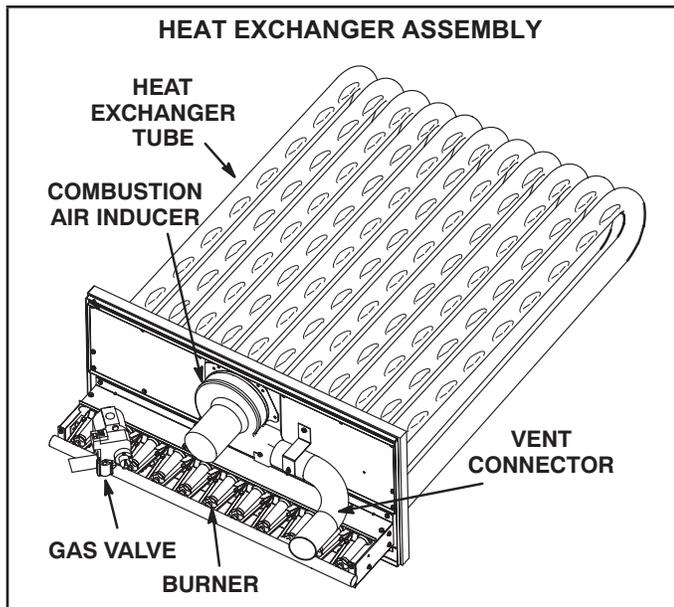

FIGURE 28
- 3 - Remove and retain screws securing combustion air inducer to flue box. Remove and retain two screws from bracket supporting vent connector. See FIGURE 28.